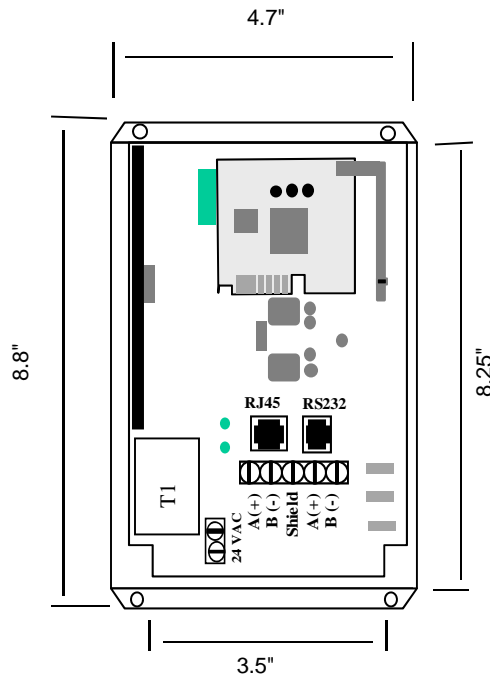

Figure 1
- 24 VAC Input - Connect 24VAC 60 Hz input to terminals using 18 AWG wire (See Figure 1).
- TCP/IP - If using TCP/IP use RJ45 Category 5 Ethernet cable to connect the Gateway (J2) to the network hub or computer (See Figure 1).
- RS232 - If using RS232 RTU/ASCII use the MOD9200-RS232 cable (sold separately) to connect the Gateway (J1) to the serial port on the computer (See Figure 1).
- RS485 - If using RS485 RTU/ASCII use 18 gauge shielded twisted pair wire to connect the Gateway (Terminals A+ & B-) to the MODBUS master (See Figure 1).